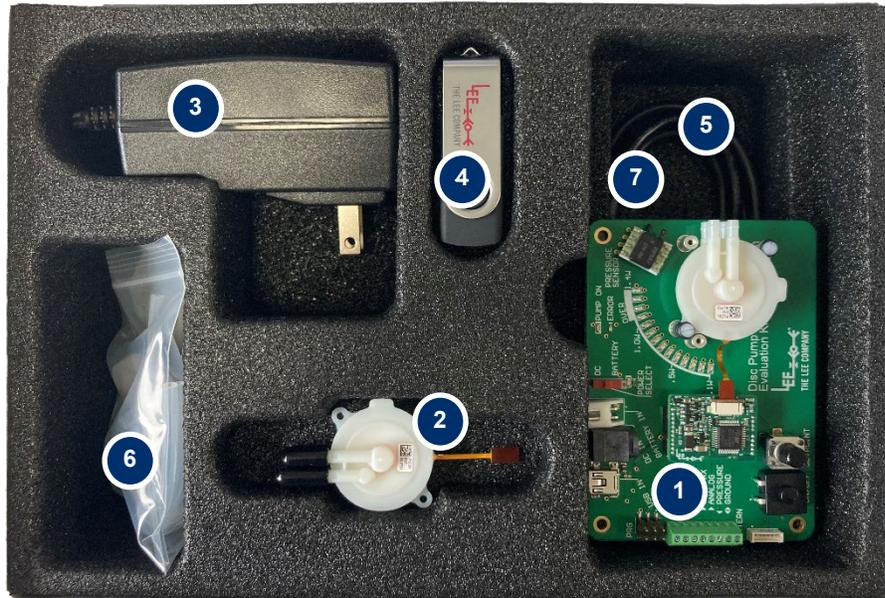
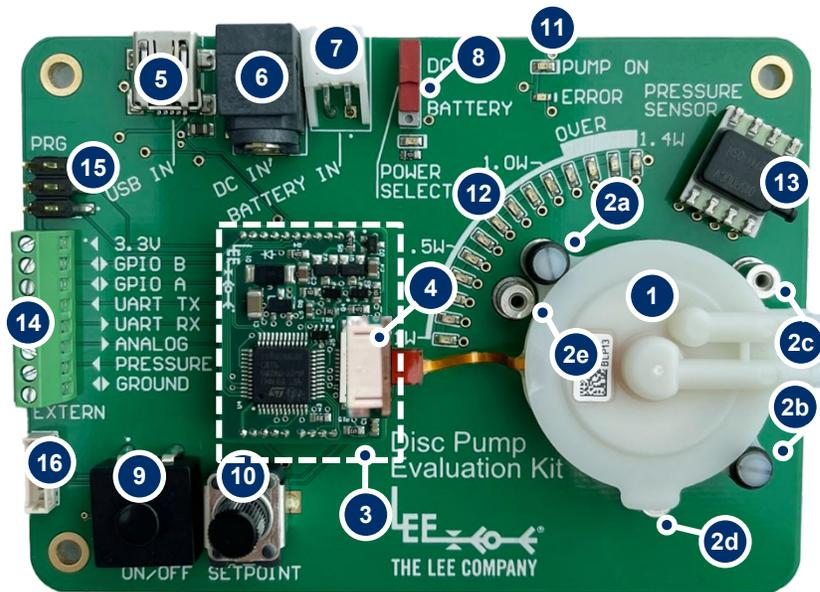

Figure 2. Piezoelectric Disc Pump Evaluation Kit components – kit components and packaging may vary depending on customer order.
Figure 6. Evaluation Kit Motherboard
The piezoelectric disc pump must be driven with an AC drive signal at a frequency optimised to suit each pump and its operating conditions. The General Purpose Disc Pump Drive PCB is responsible for generating the necessary drive signal. The pump and drive PCB are mounted onto a motherboard as shown in Figure 6. The motherboard provides a range of convenient and easy-to-use connections, user interface elements and functionality, as detailed in Table 2.
- Remove the motherboard PCB (Figure 2 - 1) from protective ESD bag.
- Power the board with the mains power supply (Figure 2 - 3) connected to the POWER IN (Figure 6 - 6).
- Turn pump on/off with the ON/OFF switch (Figure 6 – 9).
- Adjust pump power with the SETPOINT dial control (Figure 6 – 10).
- Unscrew the pump mounting screws (Figure 6 – 2a/b for models other than UltraSlim).
- Fit the pump to the stand-offs (Figure 6 – 2a/b or 2c/d/e) with the screws and O-rings provided (ensure that one O-ring is above and below each mounting eye).